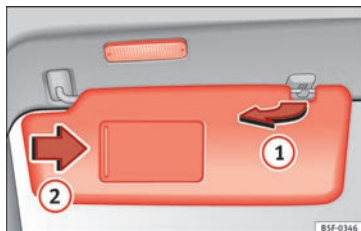

Fig. 137 Sun visor
- The sun visor can be pulled out of its mounting and turned towards the door »» Fig. 137 ①.